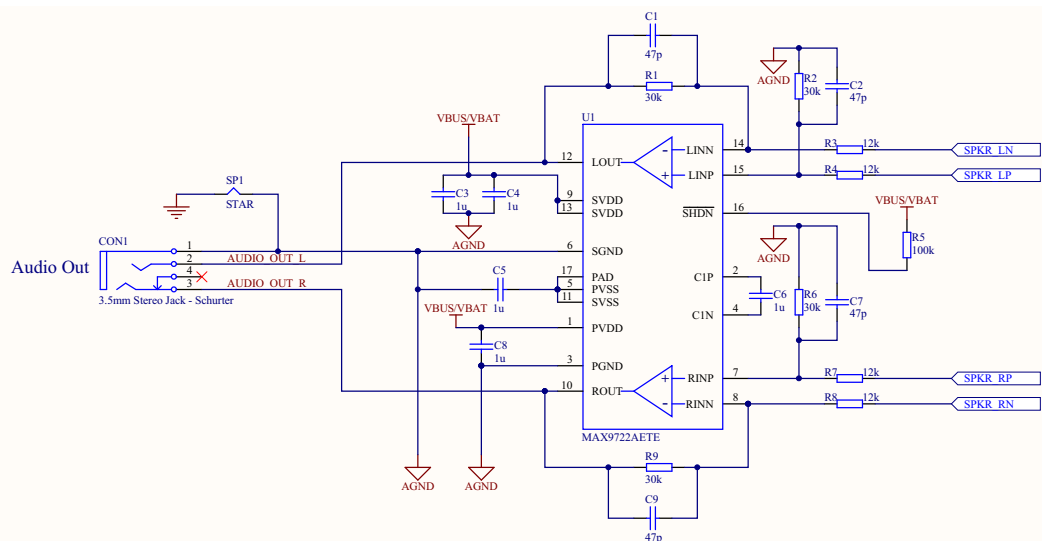

Figure 4-7: Example External Audio Amplifier Connection Suitable for Connecting to External Headphones
- Ensure the amplifier circuit is correctly grounded. For example, in the circuit in Figure 4-7 (used on the AirPrime BC127 Series Development Board), the amplifier audio ground (SGND) is connected to the main ground via a single "star" point at the